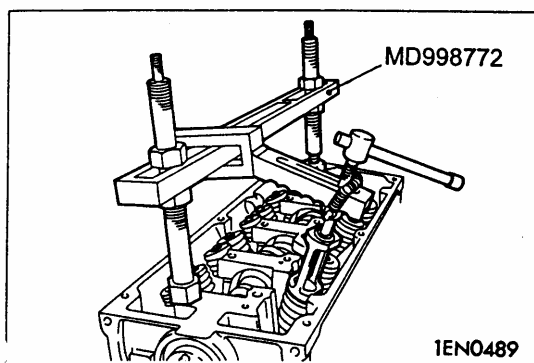
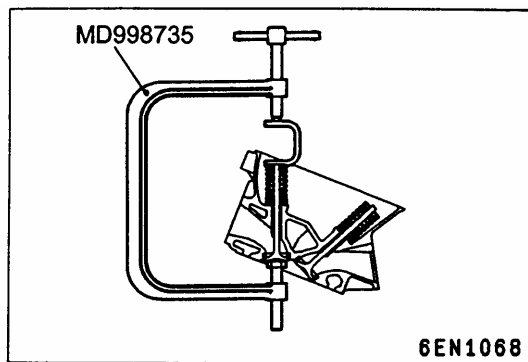

Fig.4-29
Fig.4-30
To reinstall easily, mark the cylinder number and the position on the valve, spring and other parts that have been removed, make sure the parts won't be losed, see Fig.4-29 and Fig.4-30.
(3) THE INSTALLATION OF THE RETAINER LOCK(see Fig.4-29, Fig.4-30)
(4) THE INSTALLATION STEPS OF CYLINDER HEAD BOLT